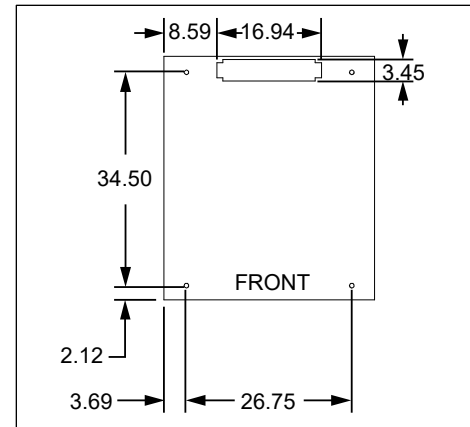

Figure 5
- Figure 5 shows the required conduit openings and mounting hole dimensions for entering/mounting the bottom of the CUBE. Use these dimensions when designing the pad.